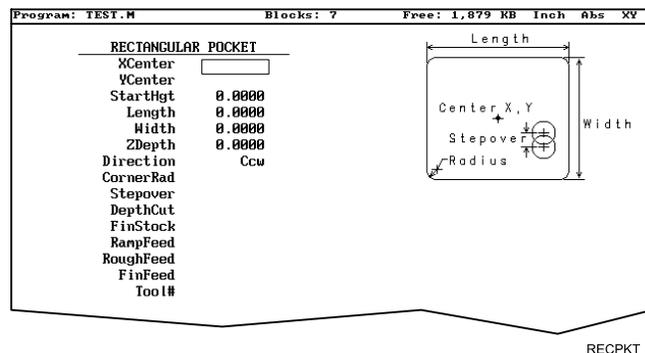

Figure 5-16, RECTANGULAR POCKET Graphic Menu
2. Highlight **Rectangular**, and press **ENTER** to display the **RECTANGULAR POCKET** Graphic Menu. Refer to **Figure 5-16**.